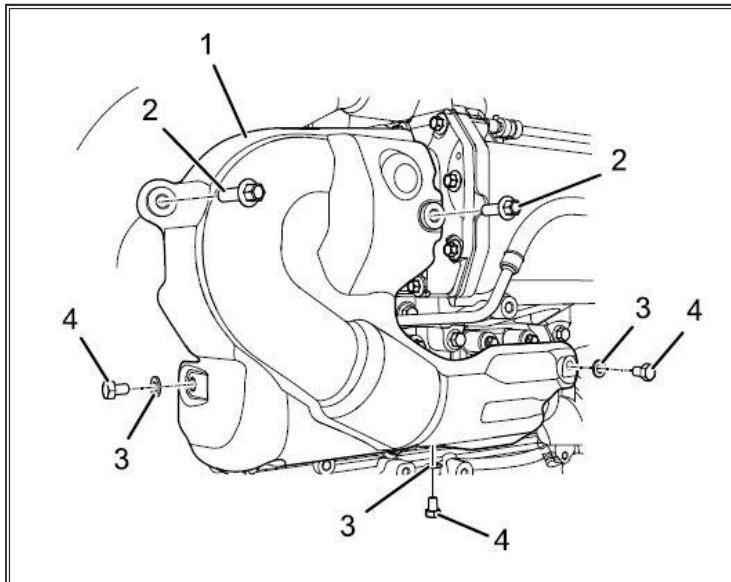

Figure 16: Heat Shield (Cylinders 4 - 6)
33. Install heat shield (Figure 16, Item 1). Tighten bolts to 23 lb-ft (31 N-m).